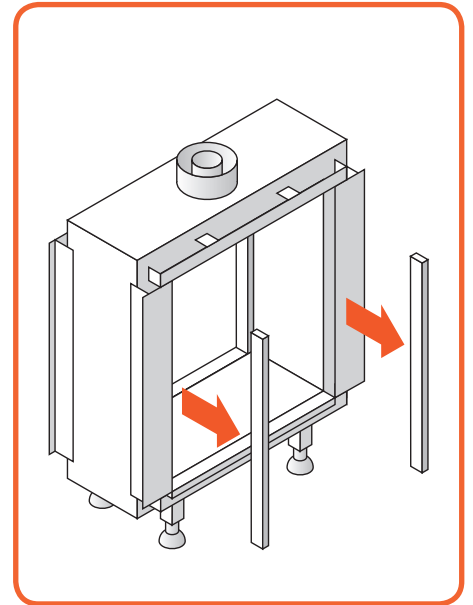

Figure 10.4 - Remove side trims
- Remove both the side trims and bottom trim. They are held by magnet snappers, *Figure 10.4 & 10.5*.